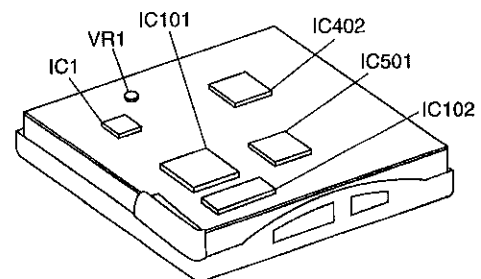

Fig.6
5. Perform the read power adjustment. Turn VR1 and set to $600\mu\text{W}\pm 10\%$. (refer to Fig.6)